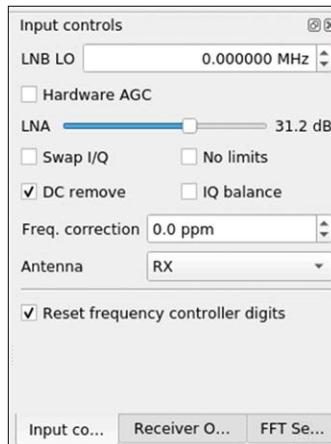

Figure 24.10: Input Controls.
At the top of the **Input Controls** (Figure 24.10) is the **LNB LO** when using local oscillator (LO) frequency in front of your SDR dongle and it is set to 0 in most cases.